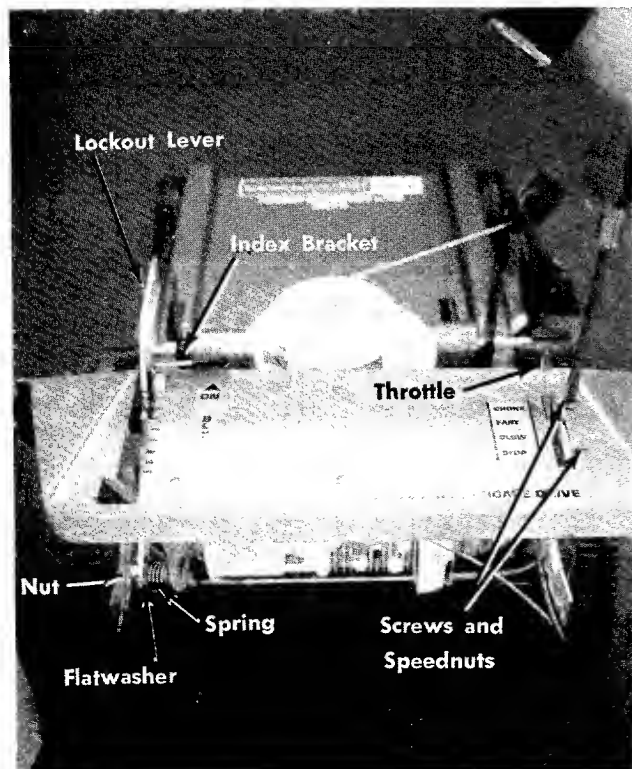

FIGURE 4
8. Assemble the throttle control to the handle panel with the two speednuts and screws. See figure 4.
9. If the lockout lever and index lever are not preassembled, they must be assembled to the bracket welded to the left side of the handle panel. Place the index bracket over the stud with the black plastic grip facing the right. See figure 4.
10. Put the spring, flatwasher and lockout lever, in that order, over the stud and tighten the nut until the end of the stud is flush with the top of the nut. See figure 4.